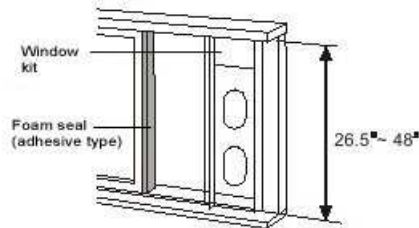

Fig.10
2. Adjust the length of the slider kit according to the height of window. Attach window slider kit against foam seal. Trim other foam seal (adhesive type) to the proper length and attach to open side of window kit (or side of window) (Fig.10)